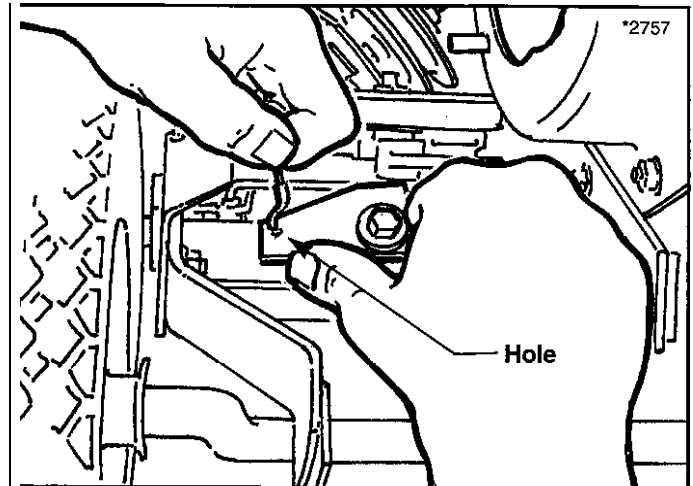

Figure 54. Push Clutch Lever And Reinsert Cable End
3. To reattach the clutch cable to the clutch lever, push the clutch lever back with one hand, and insert the cable end into the hole in the lever (Figure 54).